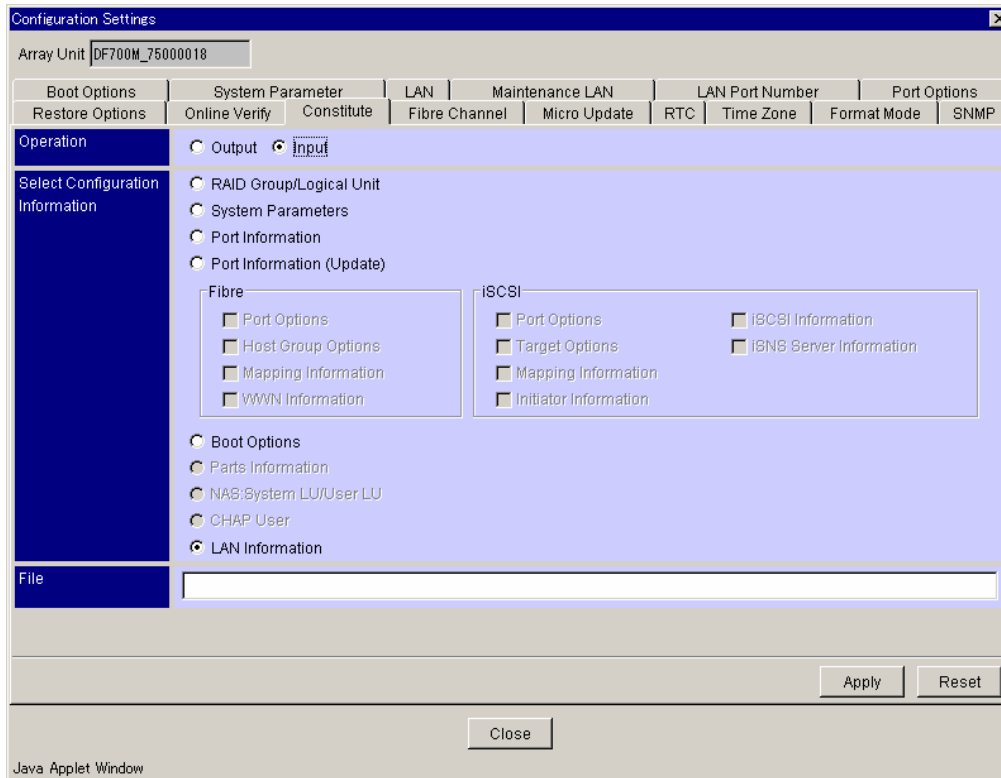

Figure 9.39 Configuration Settings Window
2. Click the **Constitute** tab. See Figure 9.39.